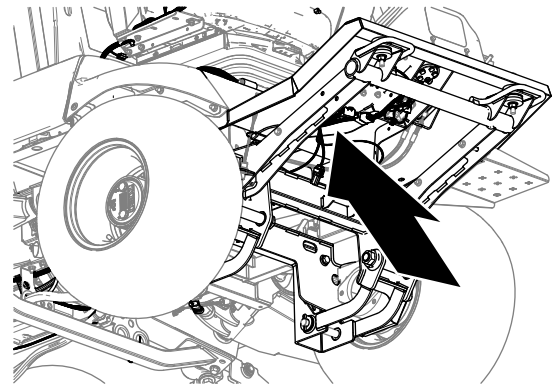
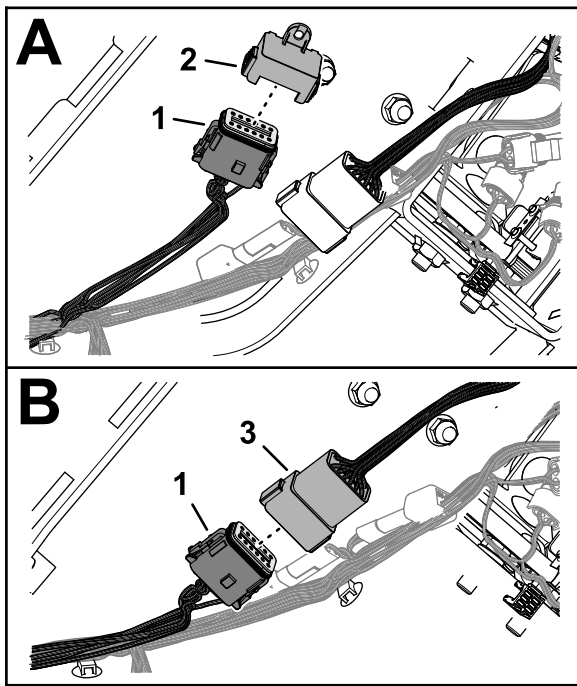

Figure 38
Figure 39
1. Remove the cap from the 12-socket connector of the machine wire harness (Figure 38 and Figure 39).
2. Plug the 12-pin connector of the console harness into the 12-socket connector of the machine wire harness (Figure 39).